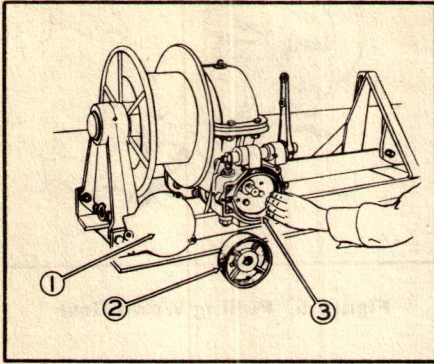
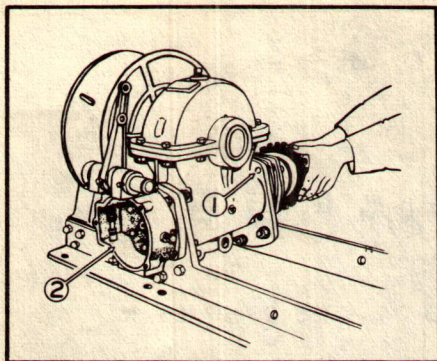

Figure 1 Removing Brake Band
Figure 7 Removing Hoist Worm Shaft
Remove cover (1), Figure 1. Pull off brake drum (2) and remove brake band (3). After a new band is installed, do not replace the cover until the brake has been adjusted as described in the "Operations Section," Page 62.
the hoist, the hoist must be removed from the tractor. Remove the cover (1), Figure 1, from the hoist drum (2), remove brake band (3), and the bolts (1), Figure 7, holding the bearing container. The worm shaft may now be removed as shown in Figure 7 by rotating the shaft so that the worm is screwed out of en-
To remove oil seal (1) and bearing cup (20), Figure 11, unbolt and remove brake housing (2), Figure 7. Remove